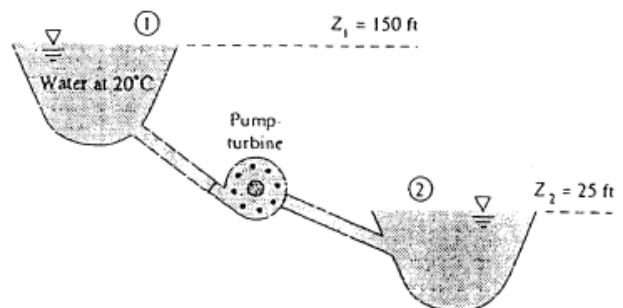

Figure 4
c) The *pump-turbine* system in Fig. 4 draws water from the upper reservoir in the daytime to produce power for a city. At night, it pumps water from lower to upper reservoirs to restore the min in either direction, the friction head loss is 17 ft. Estimate the power in kW (a) extracted by the turbine and (b) delivered by the pump.